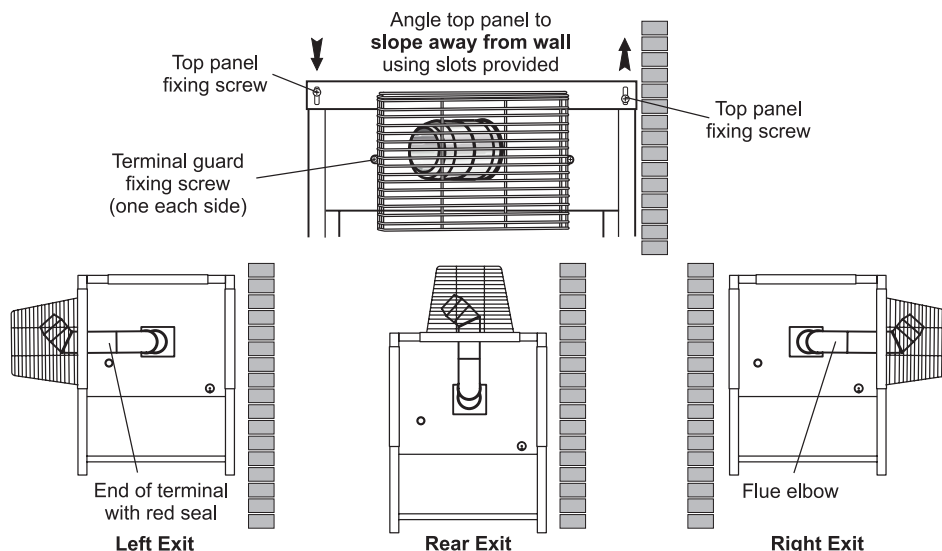

Figure 4-1: Standard low level flue provided with Outdoor Module
9. The top panel of the casing has been designed so that it may be fitted to create a slight slope away from the side positioned against the wall. To tilt the top panel, loosen the four top panel casing screws and push down on the side furthest from the wall. Tighten the screws. See Figure 4-1.
- To gain access to the water connections, remove the two screws securing the back panel and remove it by withdrawing it forwards at the bottom. Remove the top casing panel, see Section 4.7 and Figure 4-1.